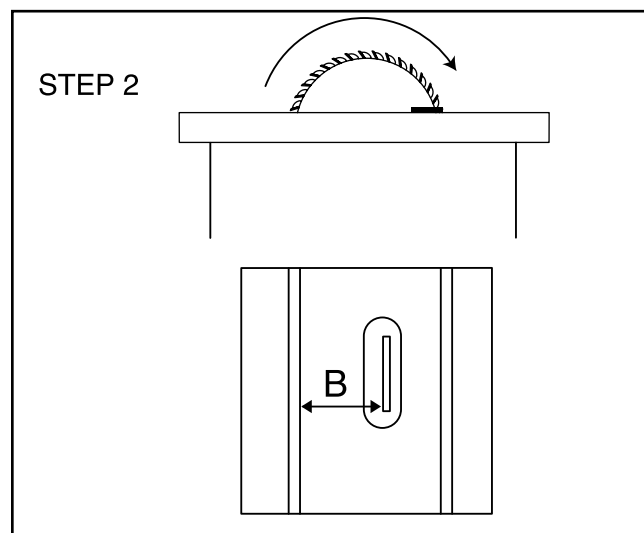

Figure 17.
4. Measure the distance from the mark on the blade to the edge of the miter slot. **Figure 17.**